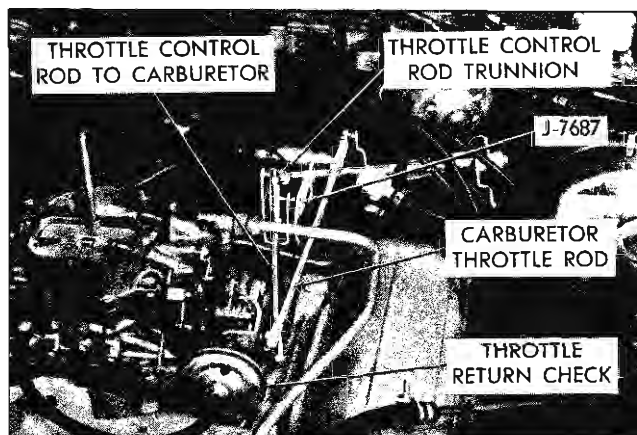

Fig. 7D-41 Linkage Pin Installed
6. While holding throttle control rod to transmission in this position, tighten upper and lower trunnion lock nuts finger tight (Fig. 7D-41). Shorten throttle control rod to transmission by backing off lower trunnion nut  $2\frac{1}{2}$  turns and tighten upper nut securely. Remove gauge pin.